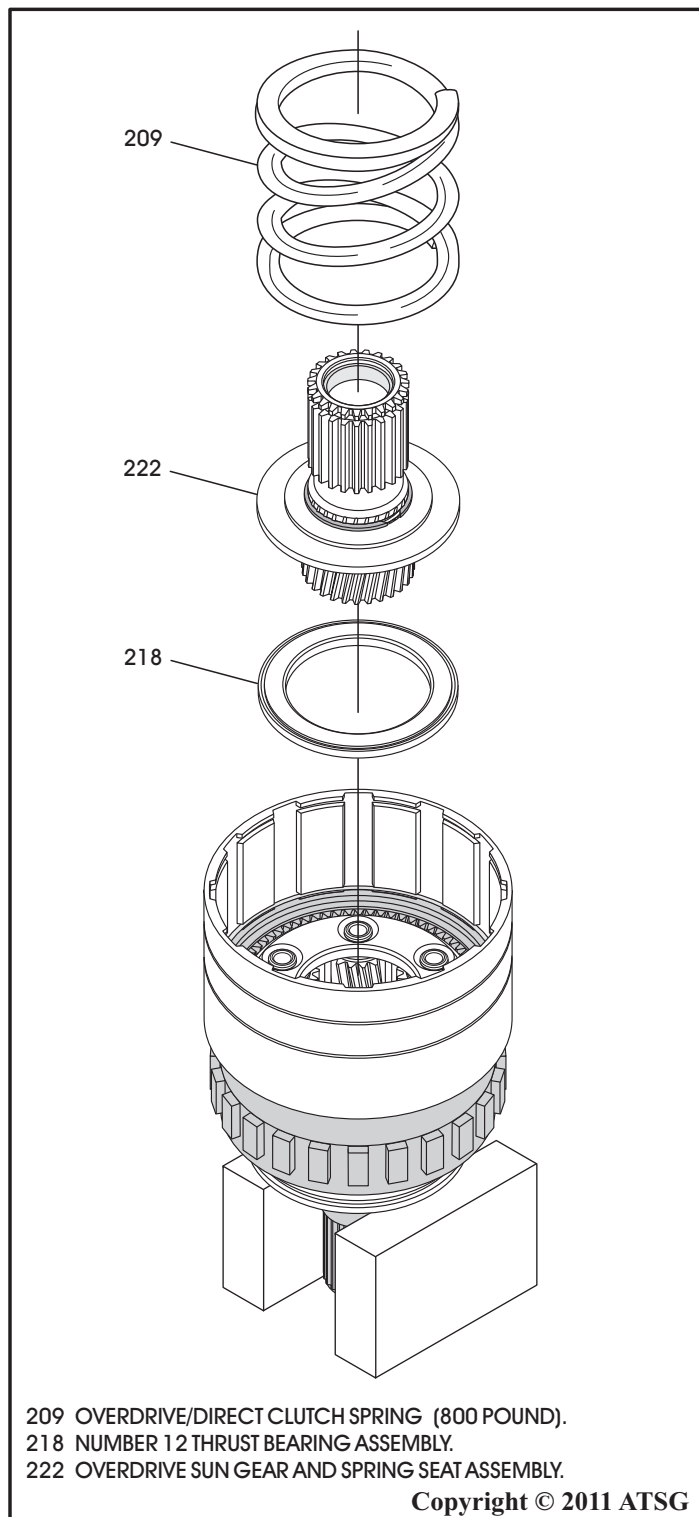

Figure 160
27. Remove the overdrive direct clutch spring, the overdrive sun gear and spring seat assembly and number 12 thrust bearing (See Figure 160).